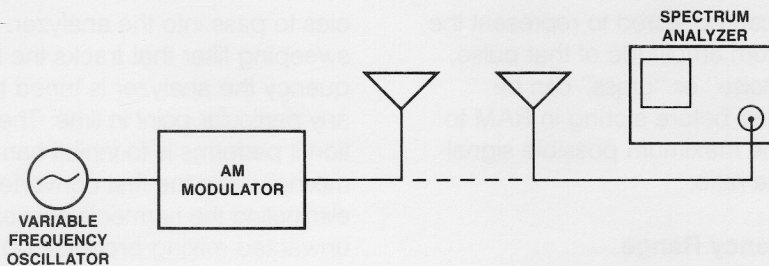

Figure 15. Test setup for sweeping audio flatness.
Another type of measurement that could be made on an AM system would be to check system flatness by sweeping the audio input with an audio generator of known or verified flatness. The RF carrier could then be monitored in a narrow span/div and a deflection (scale) factor of 2 dB/div. By using the MAX HOLD function, we could construct a waveform to indicate the flatness of the total system. This waveform would also indicate any "emphasis" placed on the audio. Figure 15 shows the
**(Harmonic Distortion)** A typical Harmonic Distortion measurement would be set up as in Fig. 15 with the variable frequency oscillator set at some specified frequency. The